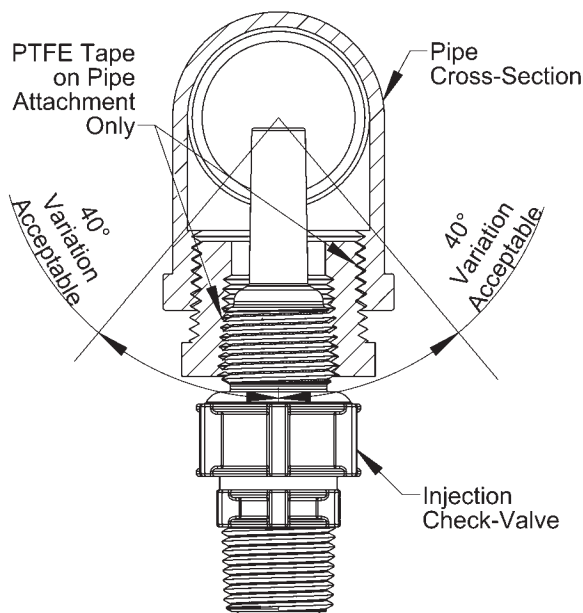

FIGURE 1
A. Installing Injection Check Valve (Figure 1)